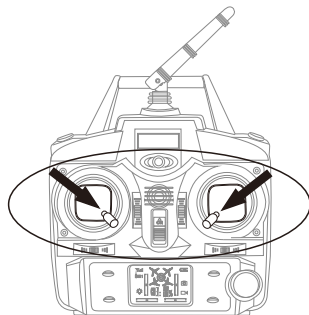

Figure 19
4. Immediate landing: Push the left throttle and right stick to internal angle of 45 degree at the same time when immediate landing is need in urgent condition (Figure 19), the motors will stop rotating and the drone will fall to the ground directly. (Please keep away from clouds while using the function, the drone may generate some impact in the process of immediate landing.)